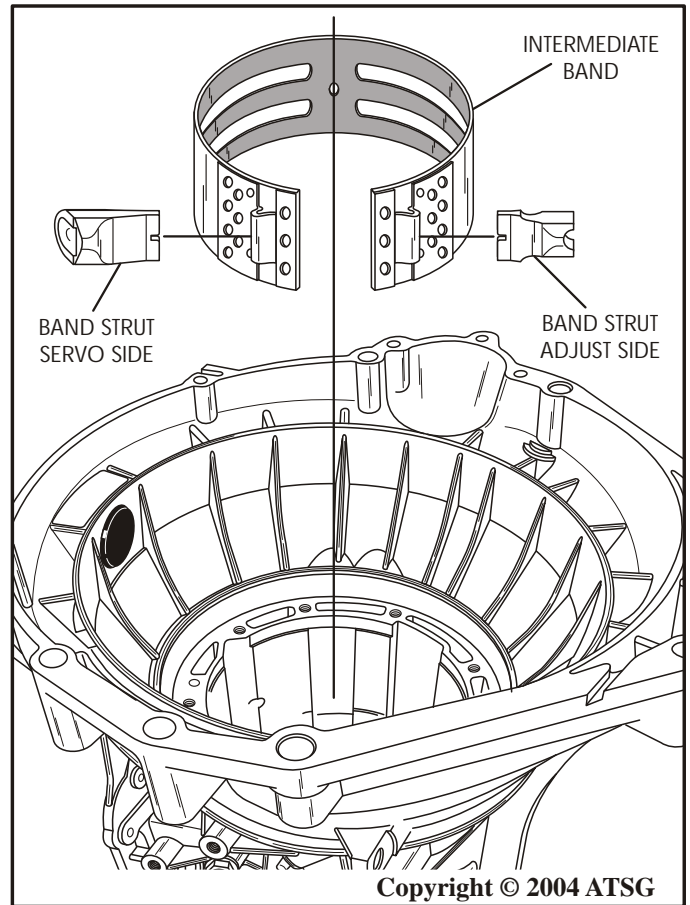

Figure 149
34. Install the intermediate band into transmission and around the direct clutch housing, as shown in Figure 149.